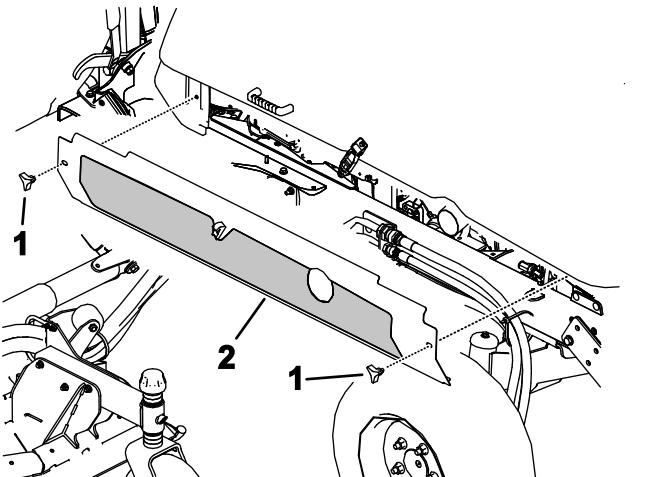

Figure 101
4. Loosen the knobs and remove both side shrouds (Figure 101).
5. Install the side shrouds (Figure 101).